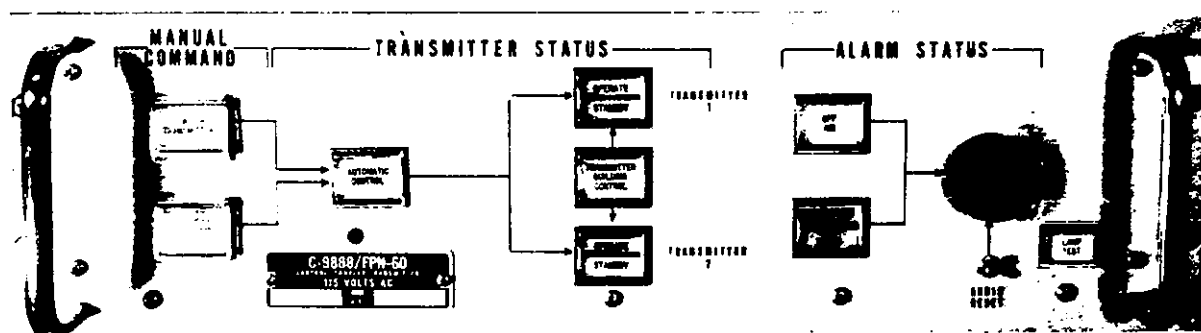

Figure 1.4. 1A2-Transmitter Coupler Control
1.3.2 Transmitter Coupler Control (1A2). The Transmitter Coupler Control (Figure 1.4) contains the Transmitter Control Module W0678-5/XMTR CON, Relay Assembly W0678-13, and Transmitter Control Driver W0678-6/XMTR CON DVR. The Transmitter Coupler Control (TCC) performs the following functions: